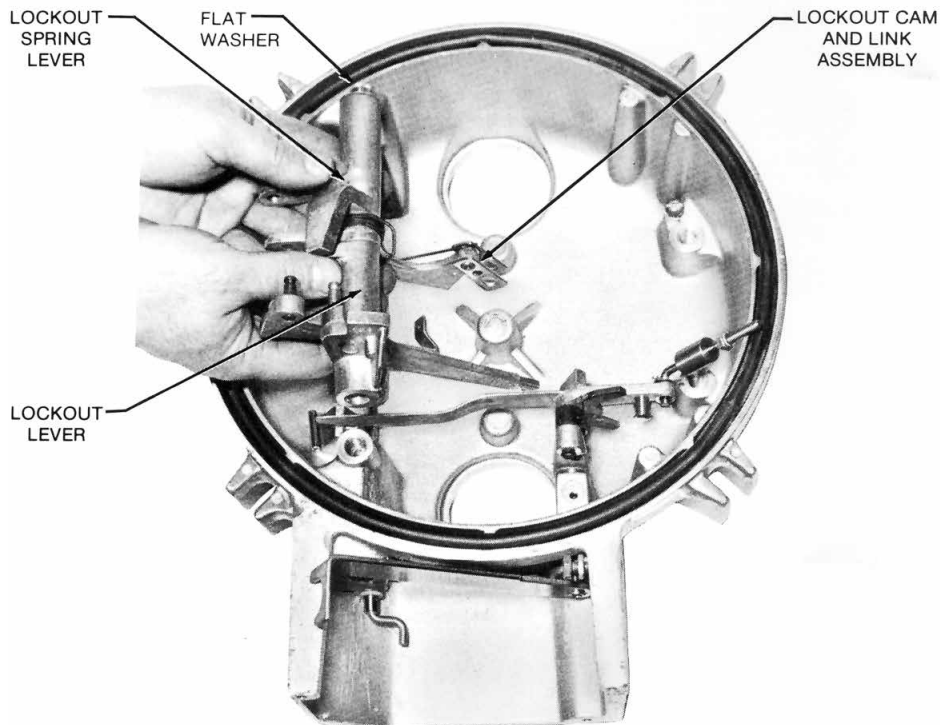

Figure 52. Removing parts from head mechanism
7. Pull the operating lever and remove manual trip lever. Then lift out the lockout spring lever, lockout cam and link assembly, and lockout lever (Figure 52).